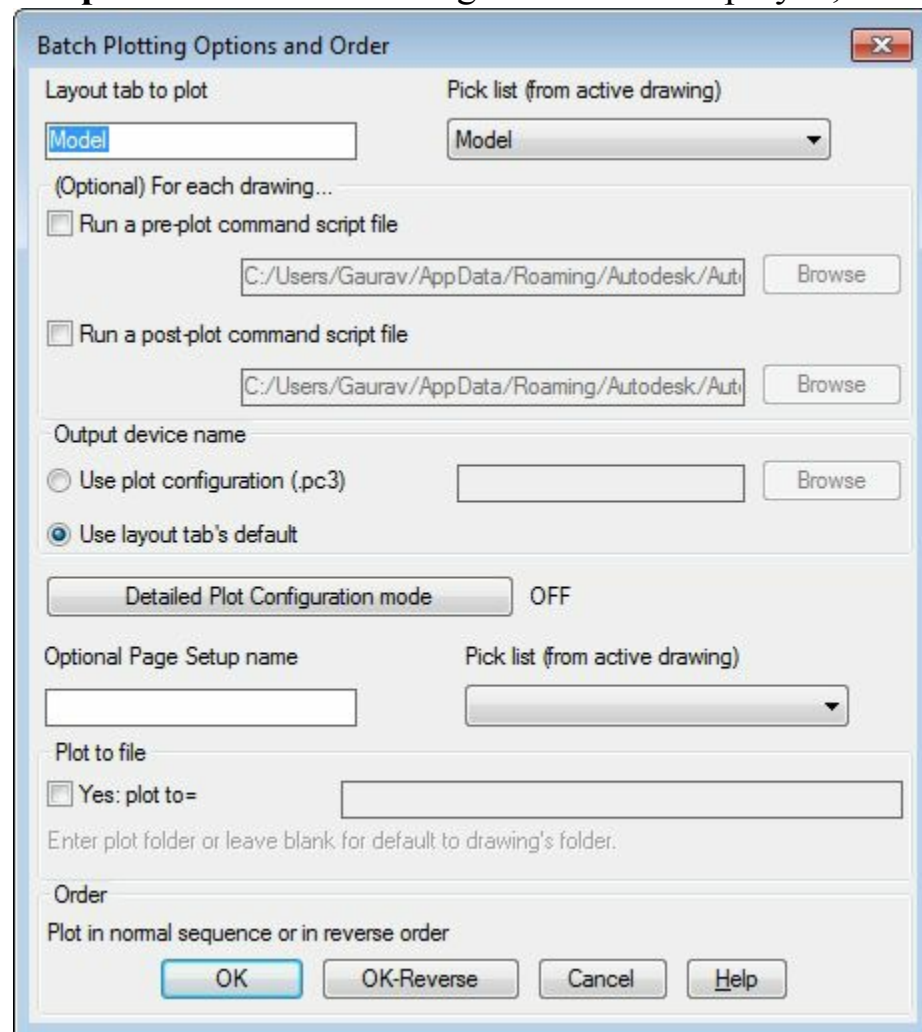

Figure-30. Batch Plotting Options and Order dialog box
- Click on the **OK** button from the **Select Drawings to Process** dialog box. The **Batch Plotting Options and Order** dialog box will be displayed; refer to Figure-30.